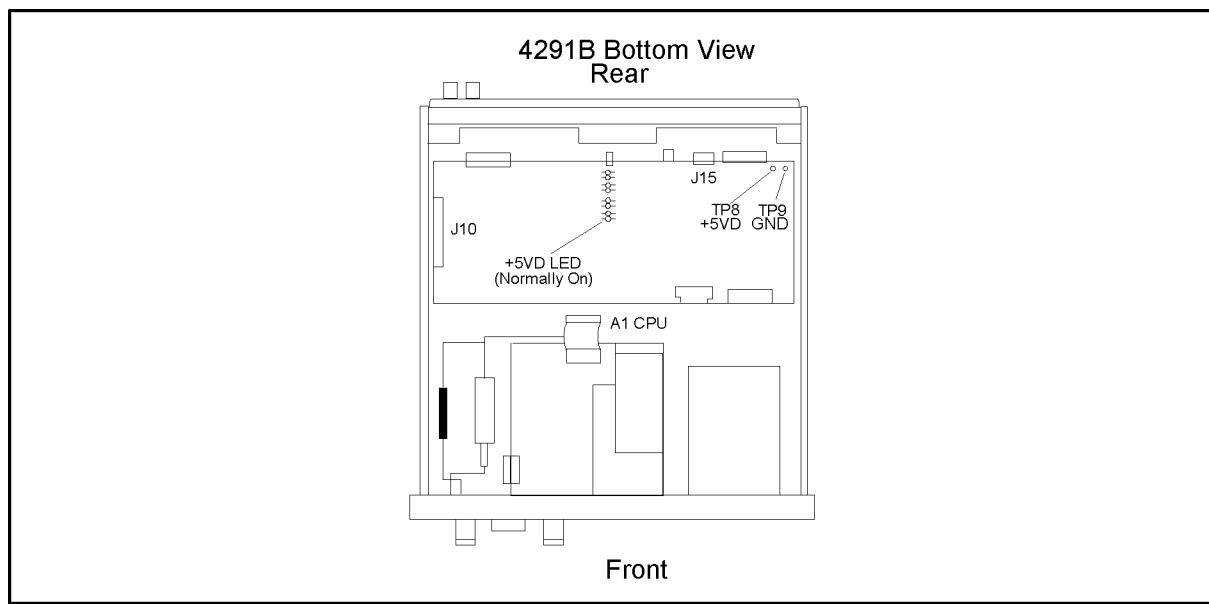

Figure 5-3. A1 + 5 VD LED Location
- c. Look at the +5 VD LED. Figure 5-3 shows the +5 VD LED location on A1 CPU. The LED is normally on.